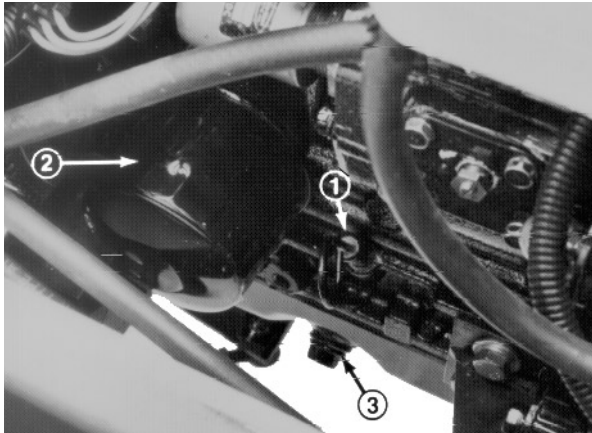
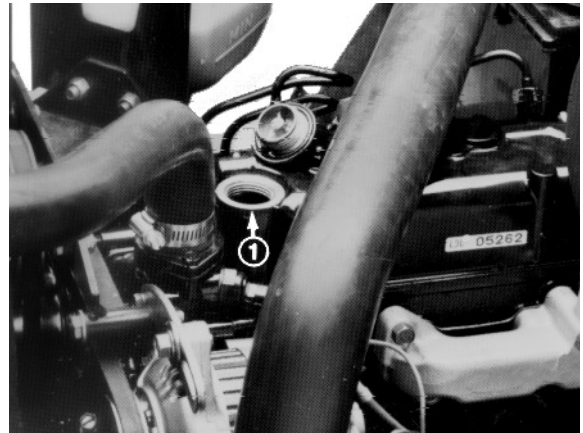

Figure 1
Figure 2
3. Remove the dipstick and wipe it with a clean rag. Insert the dipstick into the tube and make sure it is seated fully. Remove the dipstick and check the level of oil (Fig. 1). If the oil level is low, add enough oil to raise the level to the FULL mark on the dipstick. Do not overfill (Fig. 2).